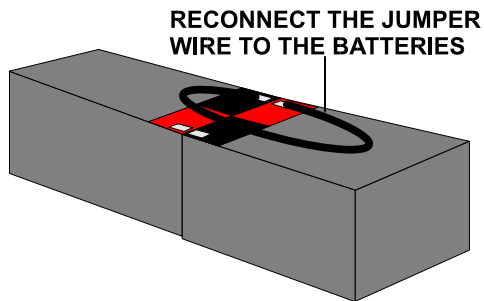
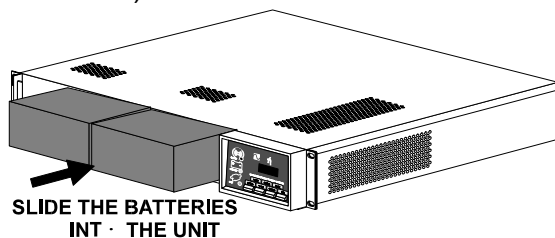

Figure 8
Figure 9
the left hand battery. (See Figure 8.)
- b. Connect the battery wire from the old string to connect the new string. This wire should go from the negative (–) terminal on the right battery to the positive (+) terminal on the left battery. (See Figure 9.)
- c. Hold the gray wire to the negative (–) terminal on the right hand battery for three (3) seconds to precharge the circuitry.
- d. Connect the black wire to the negative (–) terminal on the right hand battery. (See Figure 8.)